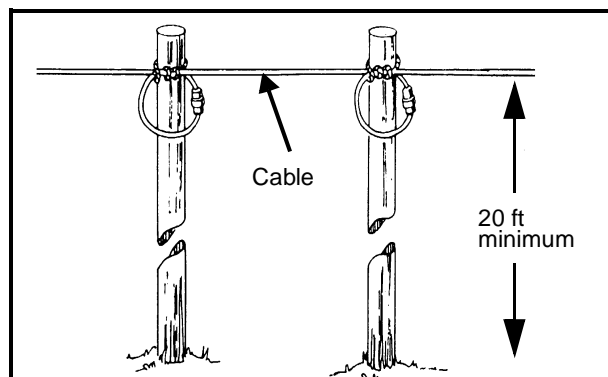

Figure 10-2. Overhead distribution system
- Space the poles so that the quick-disconnect joints are supported by the pole as shown in *Figure 10-2*.